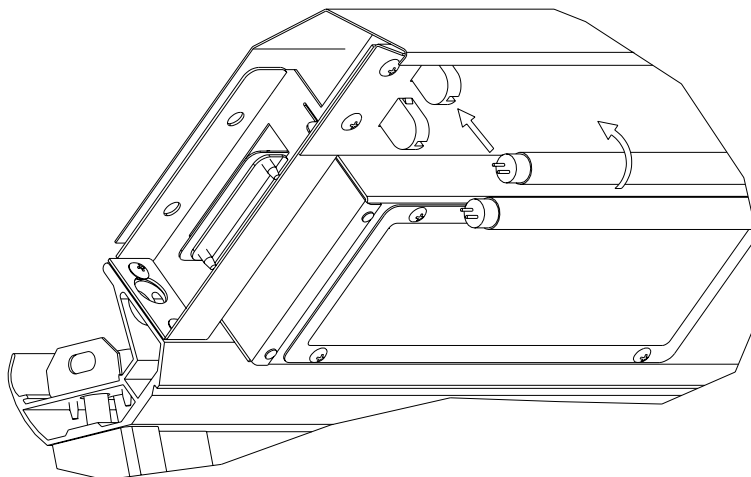

Figure 17. Fluorescent Light Bulbs
3. Hold the replacement light bulb at each end with the contact pins on the ends aligned vertically (see Figure 17).